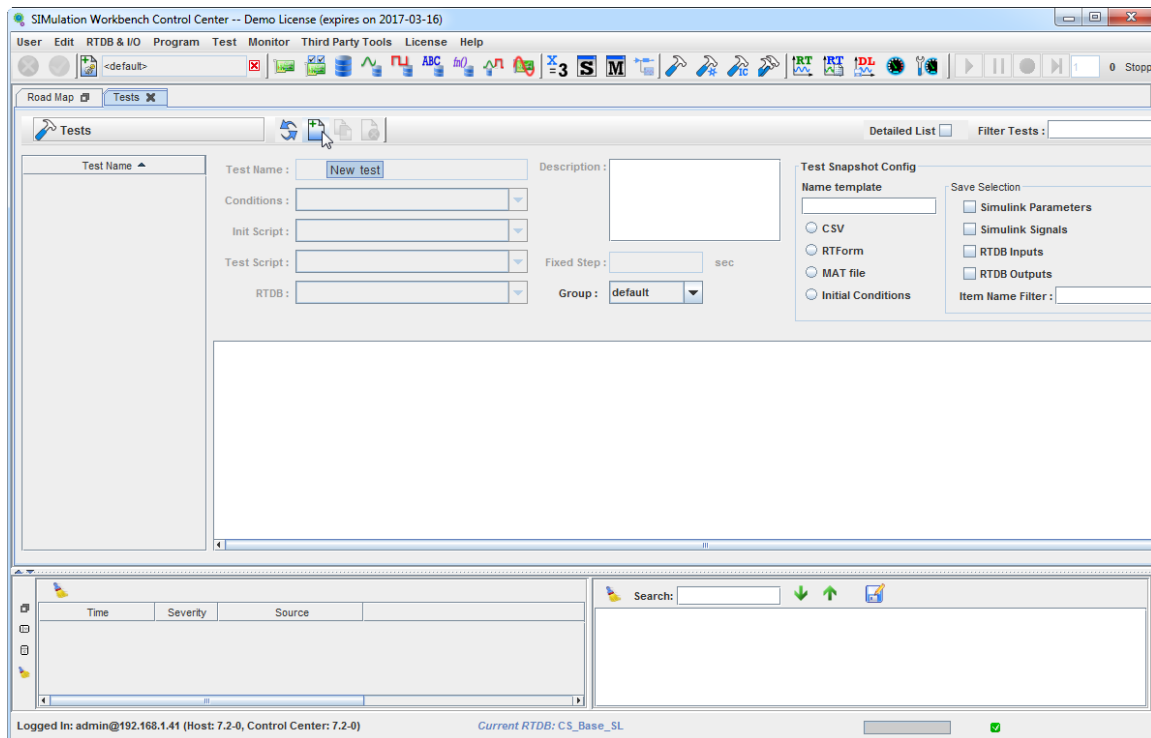
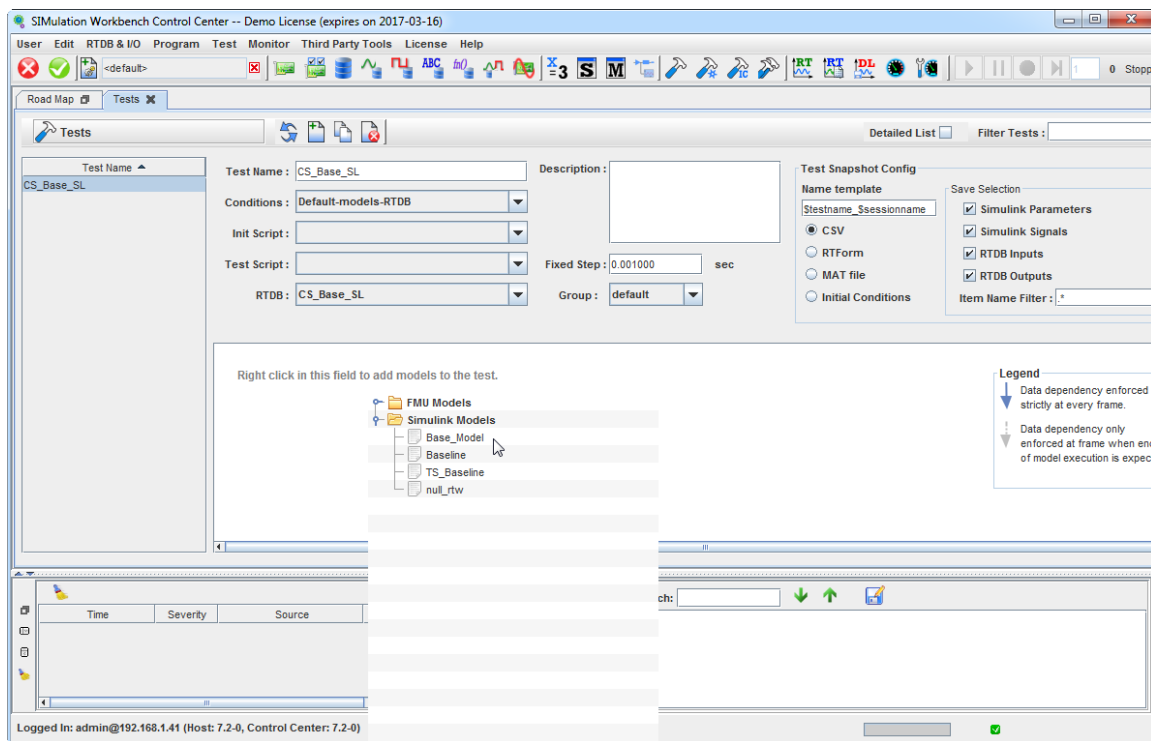

Figure 15. Simulation Workbench Control Center, creating a new test.
Figure 16. Simulation Workbench Control Center, setting up a new test.
2. After clicking the **Tests...** button, the **Tests** tab opens. From here, you can create a new test. Click the **new test** icon which looks like a paper with a green plus sign on it (Figure 15). Enter a new test name (Figure 16). Here, we will use the test name as the same name as RTDB name, `CS_Base_SL`. Select the RTDB you have created using pull-down menu. Right click in the white field and select your Simulink Model. For this example, we are using `Base_Model`. Click the green check mark icon on the top left corner to save.